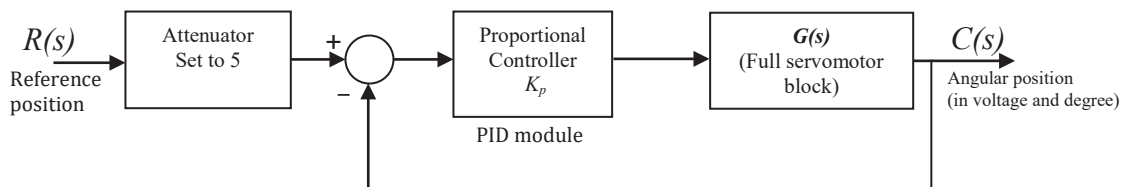

Figure A.1: Closed loop DC motor position control
1. Connect the equipment to give the equivalent block diagram as shown in Figure A.1. Use the P only in the PID module as the proportional controller, K_p